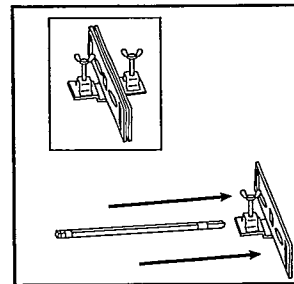

Figure 3
3. Locate two (2) End Brackets. Unscrew each wing nut fully, but do not remove from bracket. Place Brackets against each other so long ends are touching as shown in inset drawing. Set both End Brackets down while keeping them in the same position. (You will be assembling only the End Bracket shown on the left at this time.) Pick up End Bracket which is shown on the left and slide pointed end of Rotisserie Bar through the square hole in this End Bracket **ONLY**. See Figure 3. **DO NOT attach remaining End Bracket at this time.**